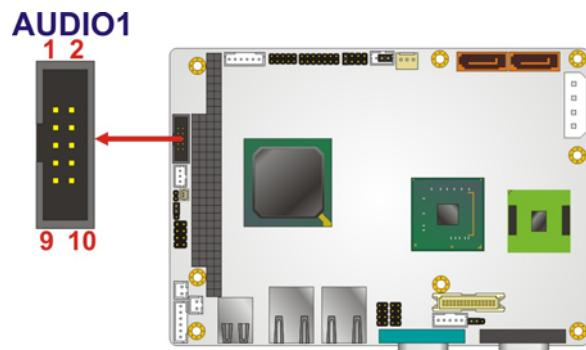

Figure 3-5: Audio Connector Pinouts (10-pin)
**CN Location:** See Figure 3-5